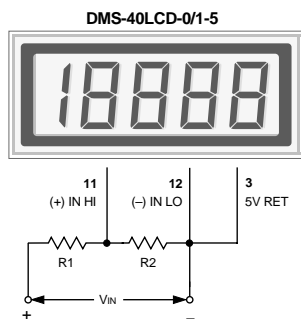

Figure 4. Input Attenuation Circuit
**3. Engineering Scaling:** For measuring voltages greater than the full scale input range of a given meter, the input signal must be attenuated. A simple voltage divider (similar to that shown in Figure 4) will scale the input to within the range of the selected meter. R1 and R2 should be precision, ±1%, metal film resistors with absolute TCR's less than 50ppm/°C. See Ap Note 4 for more information on engineering scaling.